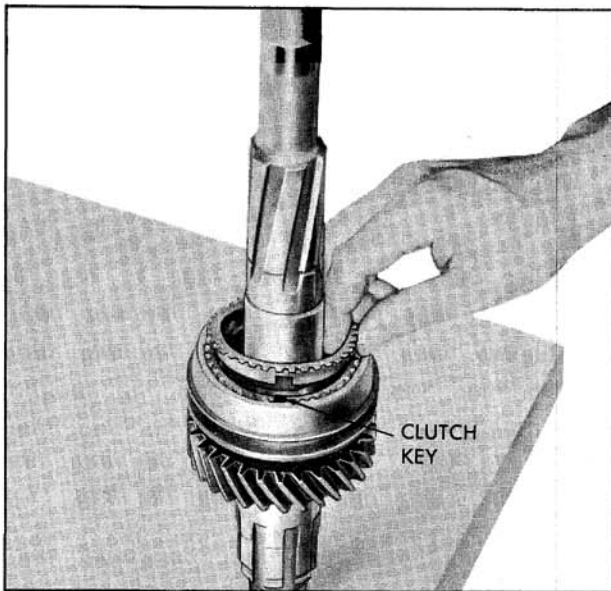

Fig. 7-68 Installing Synchronizing Ring
2. Install 1-2 synchronizer clutch assembly to mainshaft (sliding clutch sleeve taper toward the rear, hub to the front); together with a synchronizing ring on either side so their keyways line up with the clutch keys. (Fig. 7-68) Install synchronizer clutch assembly retaining sleeve.